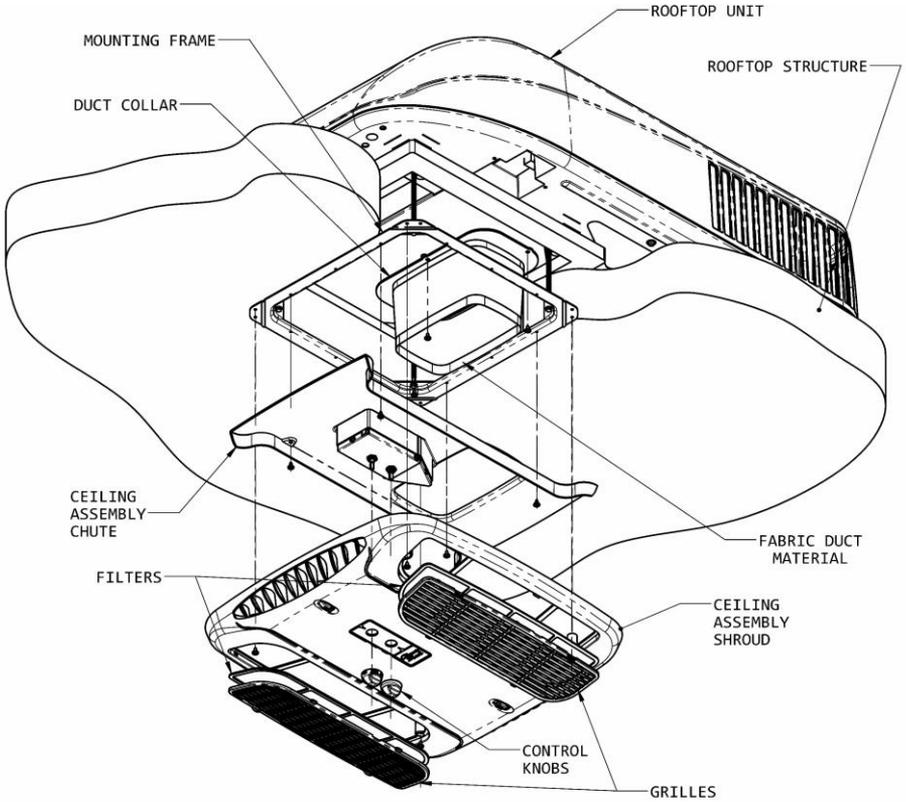

Figure 9
- B. Fold and break off the 3 tabs around the inner opening of the duct collar. Fasten the duct collar to the heat pump basepan with 3 provided screws (See Figure 9).
- H. Raise the ceiling assembly chute to the unit mounting frame and secure the chute with four provided screws (See Figure 9).
- K. Raise the ceiling shroud, ensuring it meshes with the chute, and secure to the mounting frame with the four provided screws. (See Figure 9).